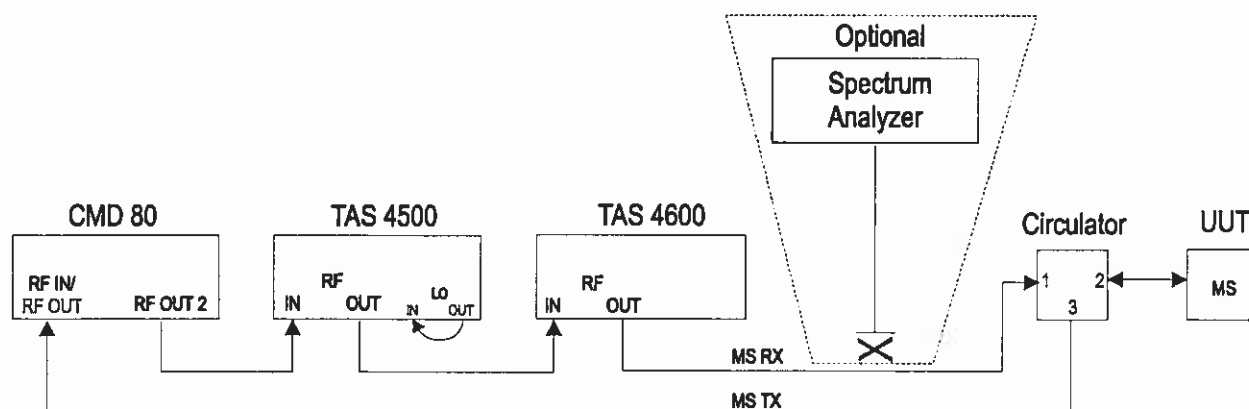

Figure 3-3. Detailed Setup
The test setup required to implement this procedure is provided below in Figure 3-3. The Base Station Emulator performs the functions of an actual base station, and TAS CDMA-LAB emulates the necessary radio channel environment. A CDMA mobile station (MS) acts as the unit under test (UUT). If it is desirable to monitor the MS receive channel (Rx), an optional spectrum analyzer can be used along with a directional coupler.
Configure the test setup as depicted in Figure 3-3.